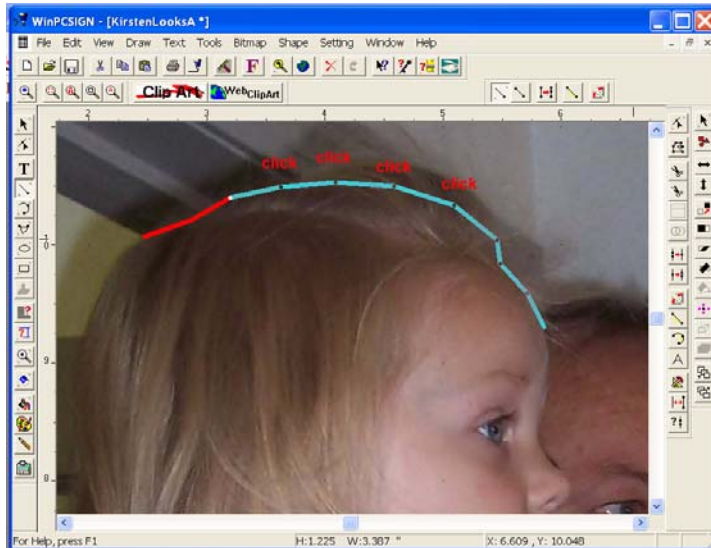

Figure 127
- 3 Click on a starting point and hold the mouse button down as you drag the starting line. See figure 127.